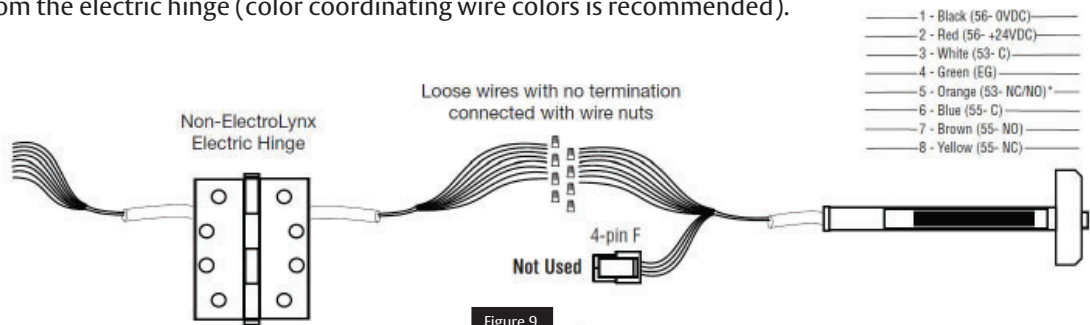

Figure 9
- a. Plug the 8-pin ElectroLynx connector from the rail into the 3" ElectroLynx harness or splice into non-ElectroLynx harness (Figure 9 Non-ElectroLynx **Power Mode** Wiring).